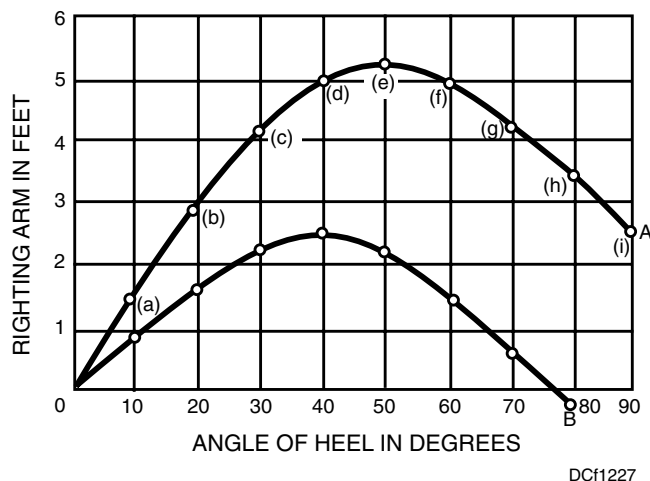

Figure 12-27. A. Uncorrected stability curve taken from cross curves; B. Corrected stability curve.
In figure 12-27, curve A represents an uncorrected stability curve for the ship while operating at 11,500 tons displacement, taken from the cross curves shown in figure 12-26. This stability curve cannot be used in its present form, since the cross curves are made up on the basis of an assumed center of gravity. In actual operation, the ship's condition of loading will affect its displacement and therefore the location of the
Suppose that the cross curves are made up on the basis of an assumed KG of 20 feet and that you determine that the actual KG is 24 feet for the particular condition of loading. This means that the true G is 4 feet higher than the assumed G and that the righting arm (GZ) at each angle of inclination will be SMALLER than the righting arm shown in figure 12-27 (curve A) for the same angle. To find the new value of GZ for each angle of inclination, multiply the increase in KG (4 feet) by the sine of the angle of inclination, and SUBTRACT this product from the value of GZ shown on the cross curves or on the uncorrected stability curve. In order to facilitate the correction of the stability curves, a table showing the necessary sines of the angles of inclination is included on the cross curves form.
Next, find the corrected values of GZ for the various angles of heel shown on the stability curve (A) in figure 12-27, and plot them on the same grid to make the corrected stability curve (B) shown in figure 12-27.
It is not necessary to figure the corrected GZ at 90°, since the value is already negative at 80°. When the values from 10° through 80° are plotted on the grid and joined with a smooth curve, the CORRECTED stability curve (B) shown in figure 12-27 results. As you can see, the corrected curve shows maximum stability to be at 40°; it also shows that an upsetting arm, rather than a righting arm, generally exists at angles of heel in excess of 75°.